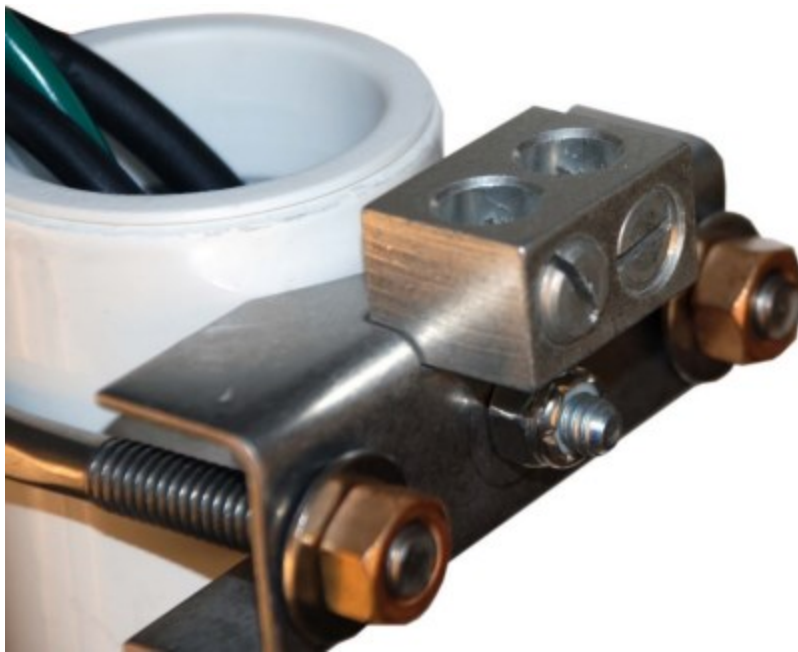

FIGURE 6-40. Lightning rod bracket installation
Install lightning rod as shown in FIGURE 6-40 (p. 59) and FIGURE 6-41 (p. 60).
1. Carefully mount the lightning rod clamp to the top of the pole (FIGURE 6-40 (p. 59)). Position the clamp so it won't interfere with the connector cover.